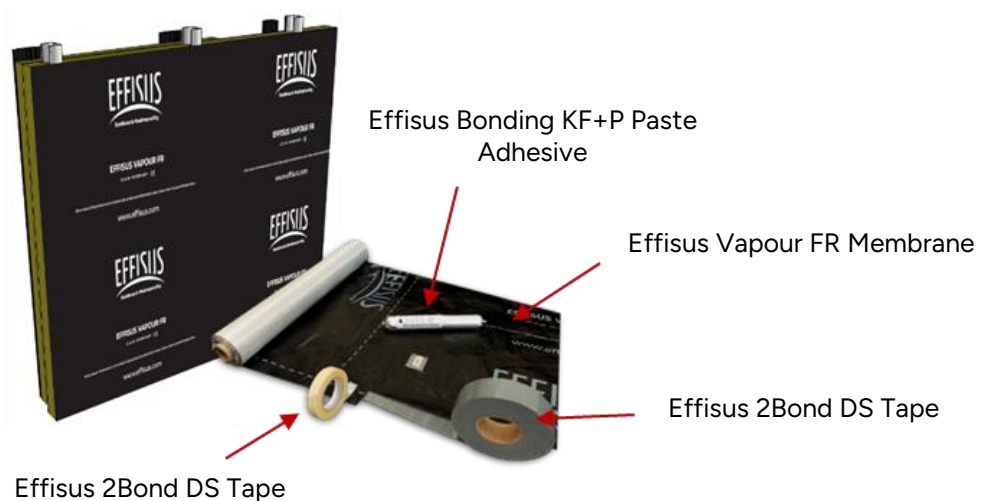

Figure 3 - Effisus Vapour FR System
- Vertical joints should overlap by 150mm minimum and be staggered or offset wherever possible (see Figure 3).